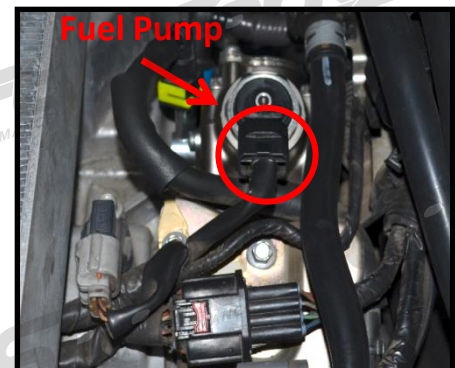

Figure 1e
- e) Remove Electrical Connector on the top of the Fuel Pump (red circle in Figure 1e).
- e) **Remove the electrical connector on the top of the Fuel Pump** (red circle in Figure 1e). Squeeze the small tab on the bottom of the connector and pull.